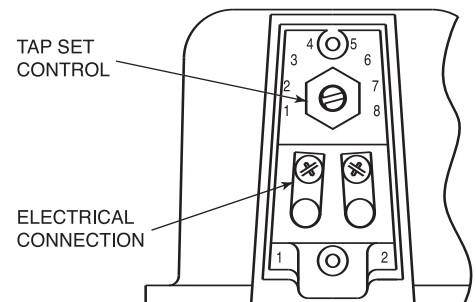

Figure 2
1. Make the electrical connections (see *Figure 2*). Connect the 70V or 25V “hot” lead to the #1 terminal and the system common lead to the #2 terminal. Follow this pattern on all similar speakers to ensure proper phasing; however, the speakers will work perfectly well if the connections are reversed.